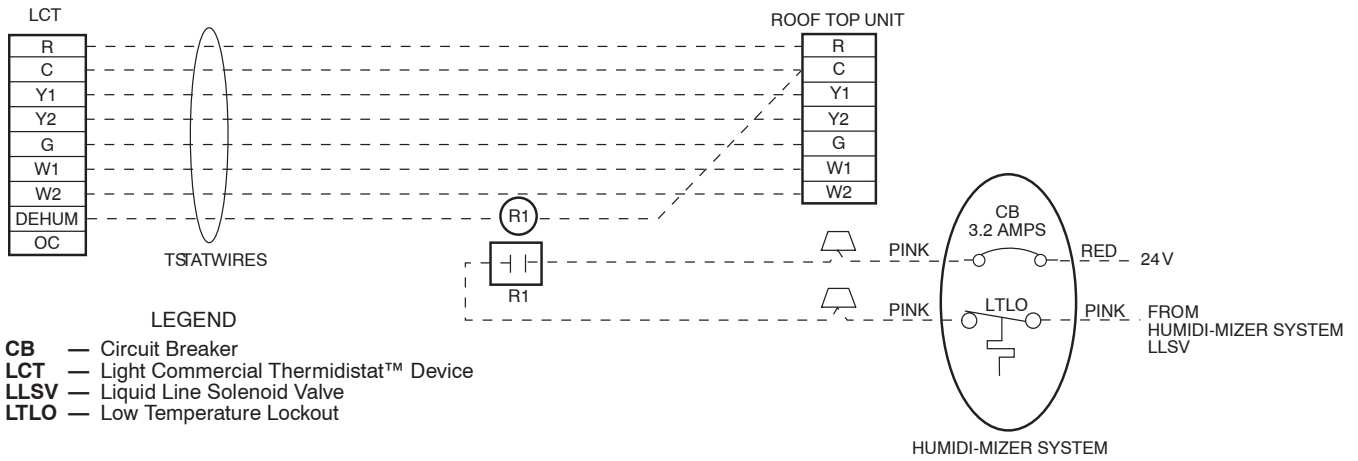

Fig. 17 – Typical Rooftop Unit with Humidi-MiZer Adaptive Dehumidification System with Thermidistat Device
3. A field-supplied relay must be installed between the thermidstat and the Humidi-Mizer circuit (recommended relay: HN612KK324). (See Fig. 17.) The relay coil is connected between the DEHUM output and C (common) of the unit. The relay controls the Humidi-MiZer solenoid valve and must be wired between the Humidi-MiZer fuse and the low-pressure switch. Refer to the installation instructions included with the Carrier Light Commercial Thermidstat device for more information.